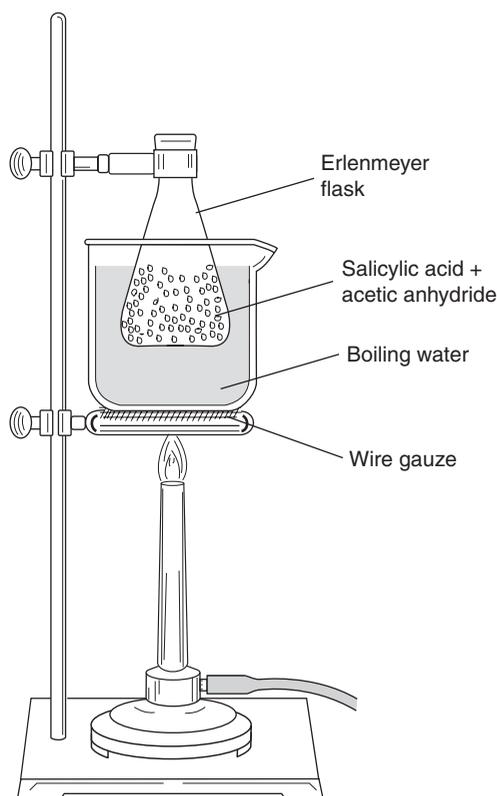

Figure 31.1
- D.** Clamp the flask in a beaker of water supported on a wire gauze (Figure 31.1), or use a hot plate. Heat the water to about $75\text{ }^{\circ}\text{C}$, stirring the liquid in the flask occasionally with a stirring rod. Maintain this temperature for about 15 minutes, during which time the reaction should be complete.